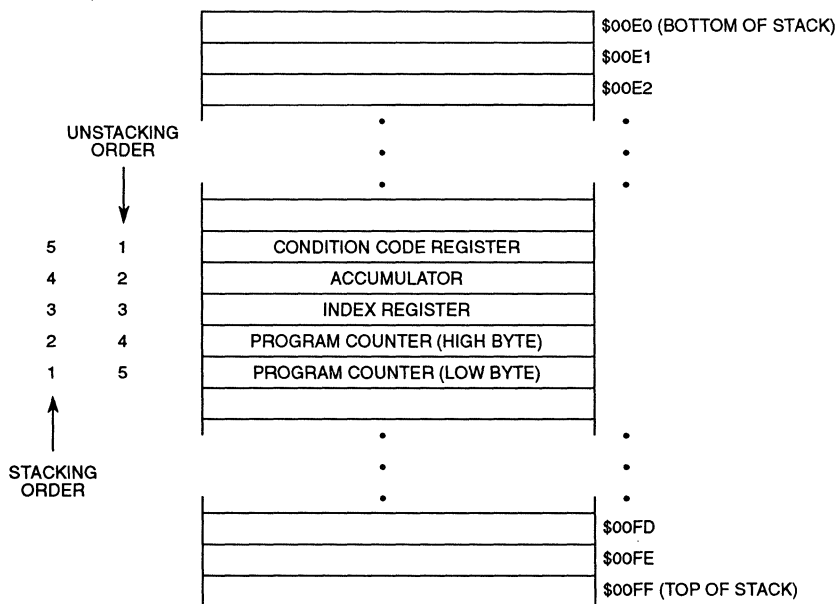

Figure 4-3. Interrupt Stacking Order
- Stores the CPU registers on the stack in the order shown in Figure 4-3
The return from interrupt (RTI) instruction causes the CPU to recover the CPU registers from the stack as shown in Figure 4-3.